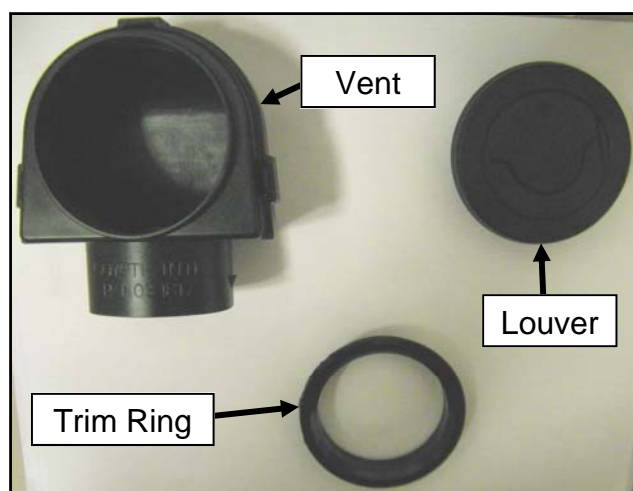

FIGURE 6.4
4. Remove the twistable louver from its threaded trim ring, per Figure 6.4.